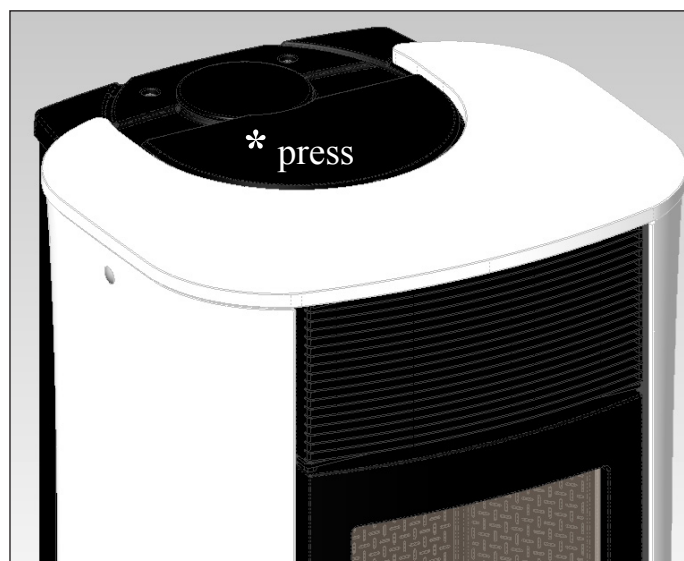

fig. 1
- Fit the pipe cover fixing bracket (A - fig. 1) using the screws 4,2x6,5 supplied, to the two plating closers (A1 - fig. 1) at the holes formed.